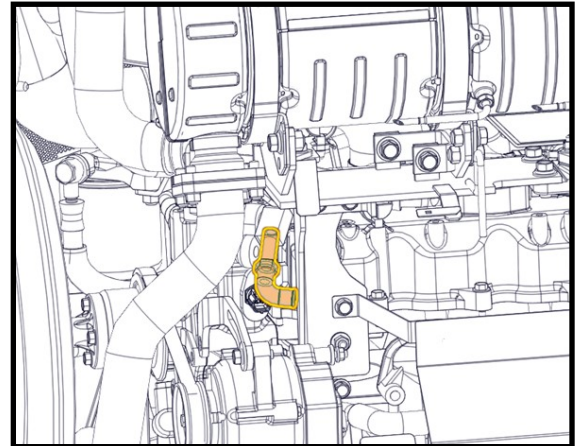

Figure 19.4 Heater Supply Fitting
- 19.4 Remove plug and insert the supplied 90° fitting shown in Figure 19.4 into left engine tie in (supply). Use pipe thread sealant. Rotate the fitting so that the hose barb is aiming towards the rear of the tractor.